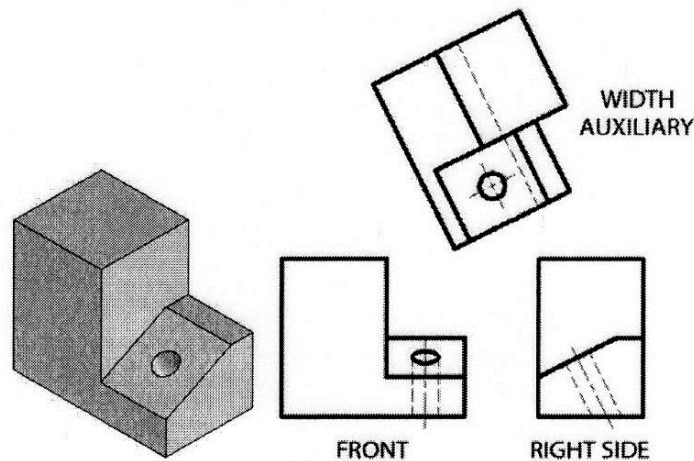

Figure 3. Width Auxiliary.
- c. Width auxiliary – The inclined surface will appear foreshortened in a top view and a front view. The inclined surface will appear as a line or edge in the right or left-side view (see Figure 3).